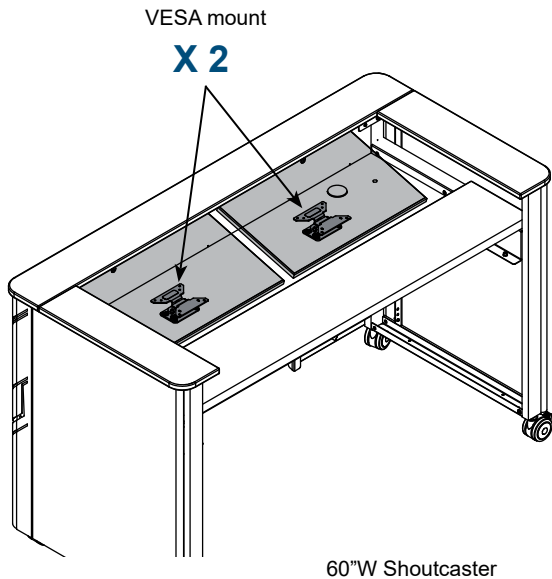

Figure 2.1
1. The rear worksurface should be recessed (lowered) to provide clearance for the monitors. **Figure 2.1, 2.2.**
2. From under the rear worksurface, use a 3/16" drill bit to carefully drill through the laminate at the (4) corresponding pre-drilled pilot hole locations. Drill slowly or use masking tape to minimize chip-out.
4. Attach the VESA mount / monitor assembly to the rear worksurface with the (4) 10-24 x 1.5" PHM screws. A second person may be necessary to help with hole alignment.